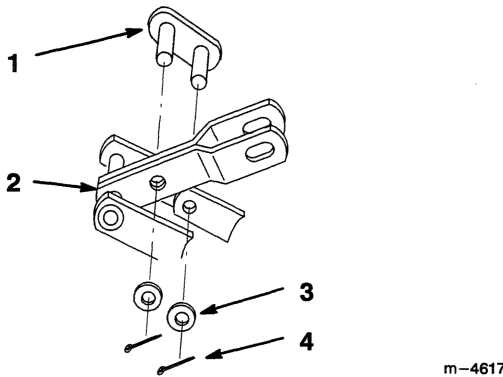

Figure 2
3. Install link bracket between mower bracket and carrier lift arm (Fig. 2).
4. Secure with 1/2" washers and 1" (26 mm) cotter pins (Fig. 2).